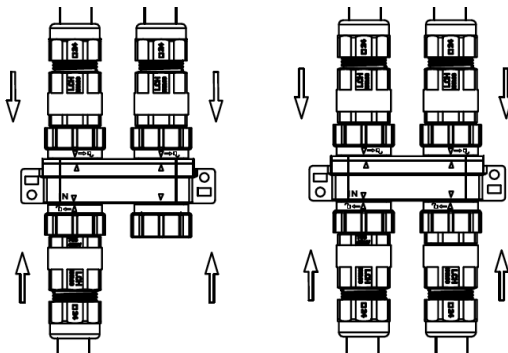

Fig. 3
- Connect the male and female ends together making sure that the arrows are aligned and tighten (see Fig. 3).